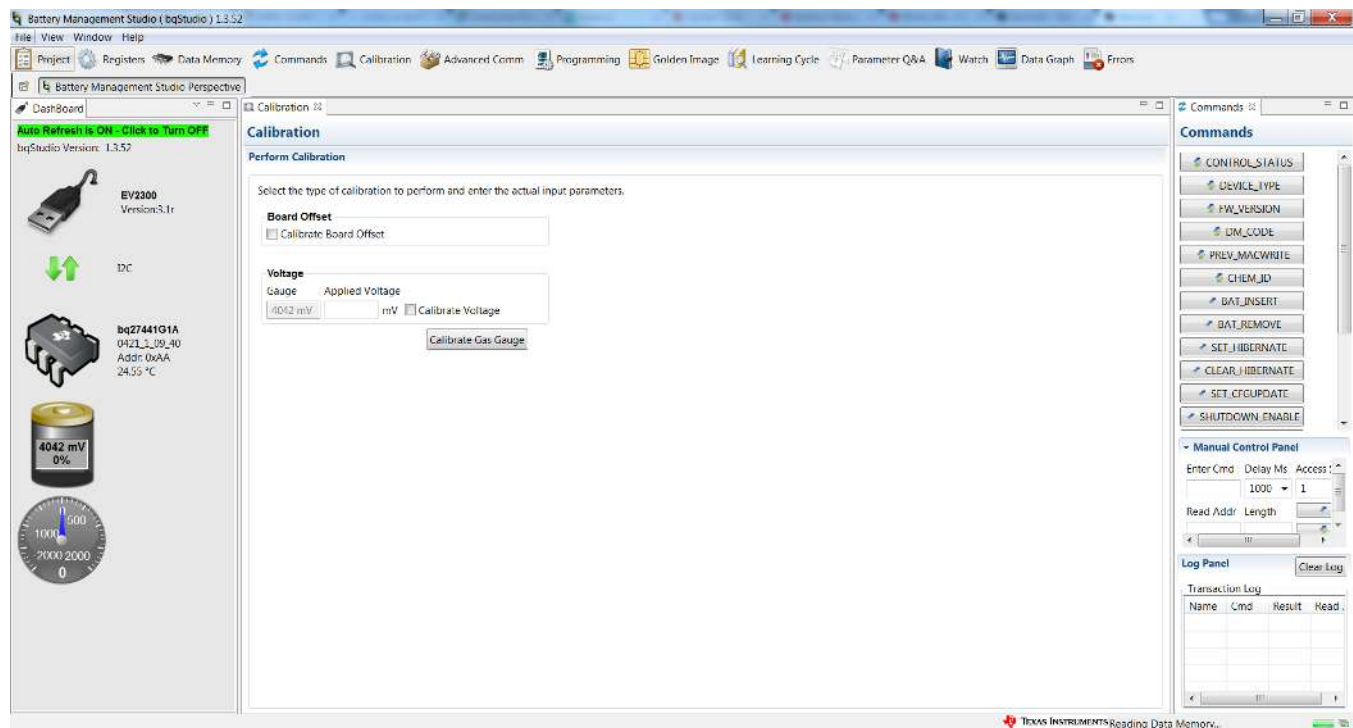

Figure 11. Calibration Screen
The bq27441EVM must be calibrated to ensure accurate value reporting. This can be done by going to the Calibration window in bqStudio (Figure 11).
1. Select the types of calibration to be performed (see Figure 11).